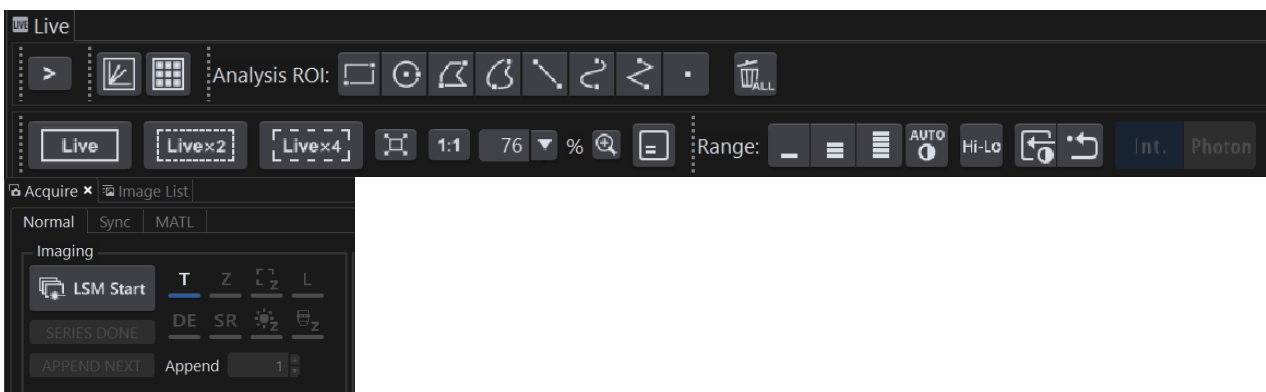

Fig. 2.13: Starting a pre-selected point measurement in the FV4000 software by clicking “Live” for measurements which should be stopped manually.
- **FluoView FV4000 - software : Start a point measurement** at the FluoView FV4000 (Fig. 2.13). The detector count rate should increase. Make sure the sample is sufficiently shielded from room light, as this might increase background.
1. **FluoView FV4000 software:** Start a point measurement as described above (Fig. 2.13).